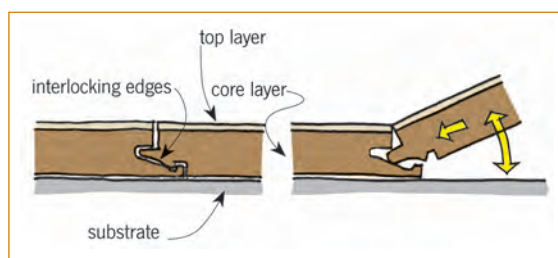

Figure 1: Interlocking flooring system.
5.1.2 A floating floor consists of planks or boards with interlocking edges that can be joined and locked together to create a single unit (Figure 1) and laid over the manufacturer's recommended underlay, typically 2–4 mm thick. The joints generally do not require gluing, and the floor effectively 'floats' over the substrate. The underlay may: